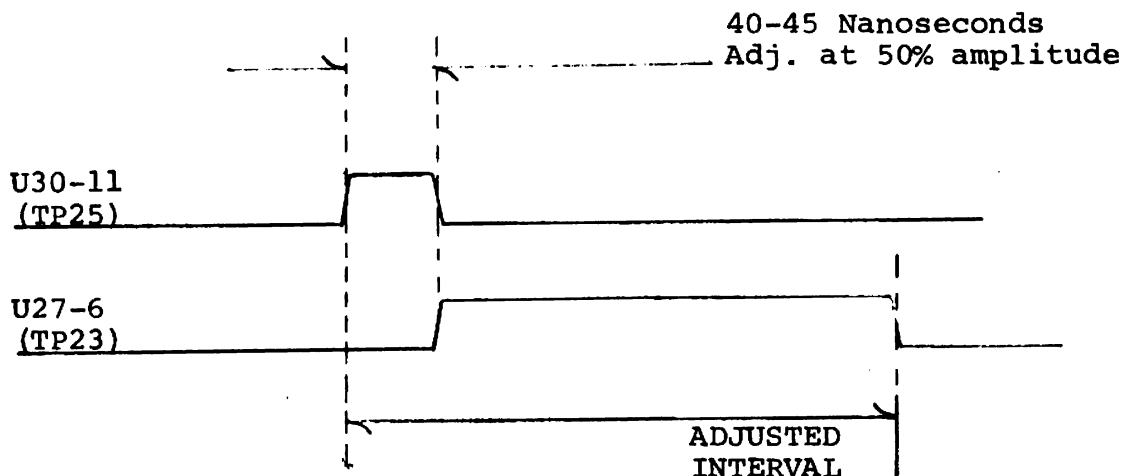

FIGURE 1
- 2.5 While reading, adjust potentiometer R115 as follows (Ref Fig 1)
(Ref Fig 1)